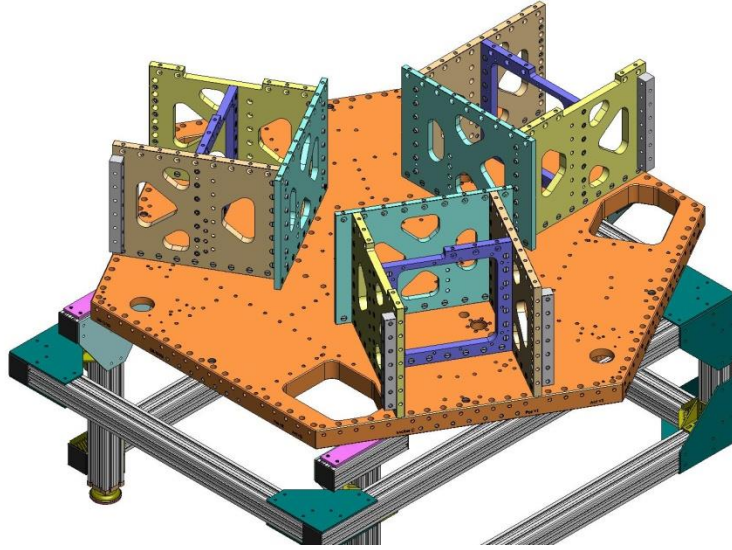

Figure 3.39. Stage 1 Floor must be rotated 60 degrees, to allow access for the Pitchfork Assembly mounting screws.
- Incrementally torque all (102) screws to final spec.
- Lift the **Stage 1 Floor** and rotate it 60 degrees, as shown in Figure 3.39. This will allow access for bolting on the **Pitchfork Assemblies** (D071423).